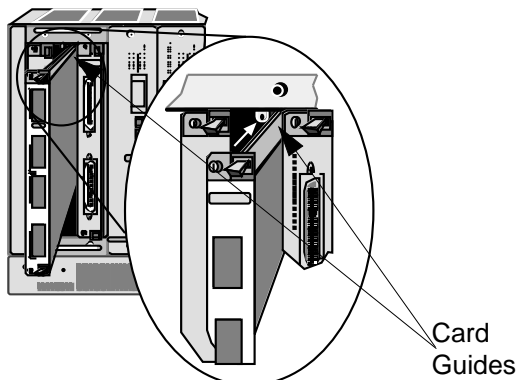

Figure 3-2 Installing the 7F06-02 Module in the 7C03 MMAC SmartSwitch
The 7F06-02 Module is installed in the 7C03 MMAC SmartSwitch using the following steps and referring to Figure 3-2.
3. Install the module by sliding it into slots as shown in Figure 3-2. Ensure that the printed circuit board (PCB) is between the card guides, slides in straight, and engages the backplane connectors properly.